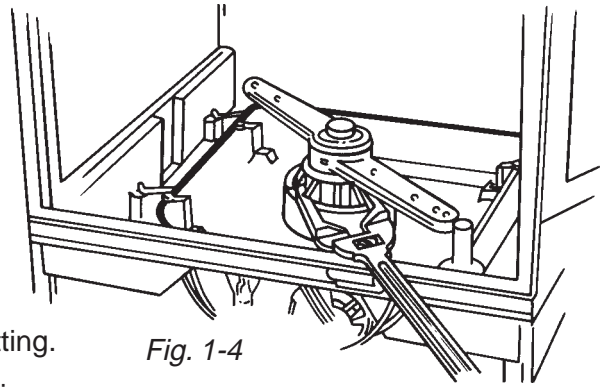

Fig. 1-4
3. Use an adjustable slip-nut wrench and loosen the pump outlet nut. (Fig. 1-4)